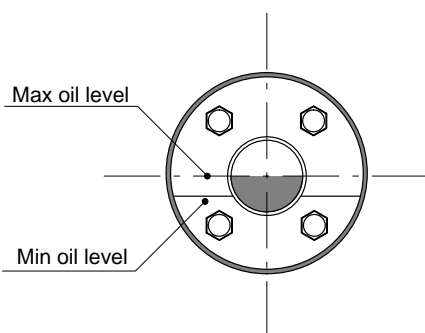

fig.15
- check oil level (top up as needed) (see fig.15)